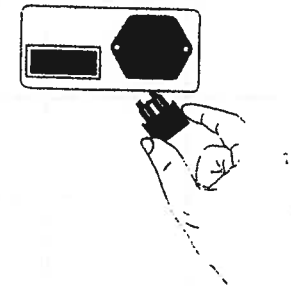

Figure 12
Step 4A Push the fuse holder back into the unit until it snaps into place. See Figure 12.